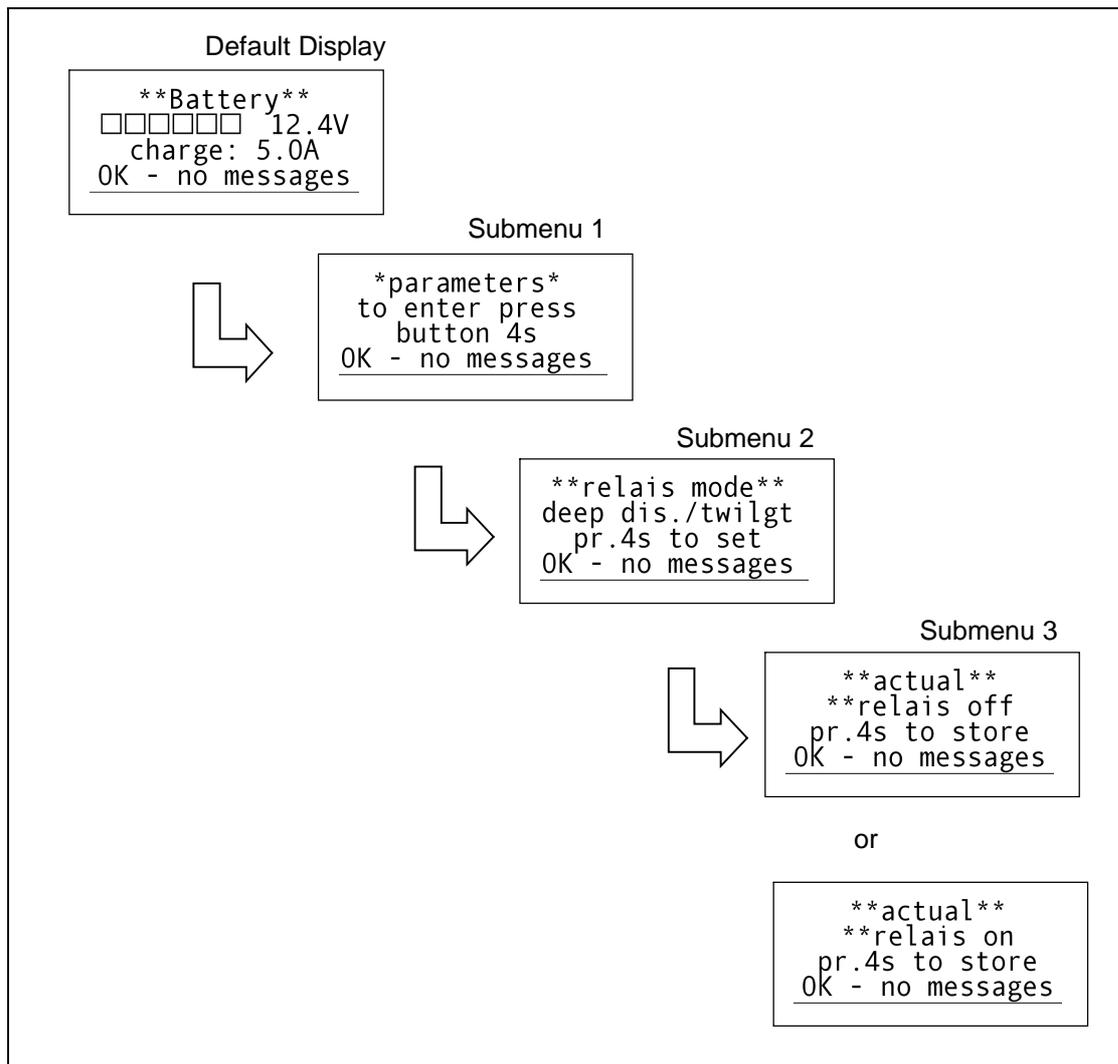

Fig. 8
4.1 Manual Operation of the Relay (Fig. 8)